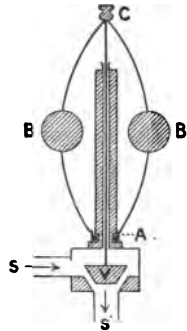
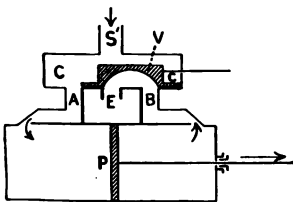

Fig. 119.
Fig. 120.
EXP. 160. — Examine a steam boiler and engine as to the following details: (1) boiler tubes; why are they used? (2) Safety valve; a lever of what class, considering tension of steam the force? Considering tension of steam the resistance? (3) Steam gauge (bent tube carrying indicator on inner end of coil and tending to straighten under pressure of steam, as rubber hose does under water pressure). (4) Water-glass and gauge cocks. (5) Governor (Fig. 119), S from boiler, S' to steam chest, and A connected to shaft. (6) Steam Chest and Cylinder (Fig. 120), and (7) Shaft connections, Fly-wheel, etc.